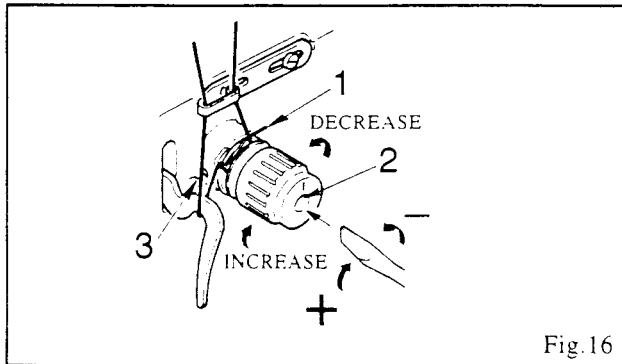

Fig.16
Using a large screw driver in slot of tension stud (2), turn stud either over toward left to decrease tension, or over to right to increase tension as shown in Fig. 16.
To set the take-up spring height, loosen screw (3), Fig. 16, and turn entire tension assembly either over toward left to lower take-up spring and decrease its movement, or over toward right to raise take-up spring and increase its movement.